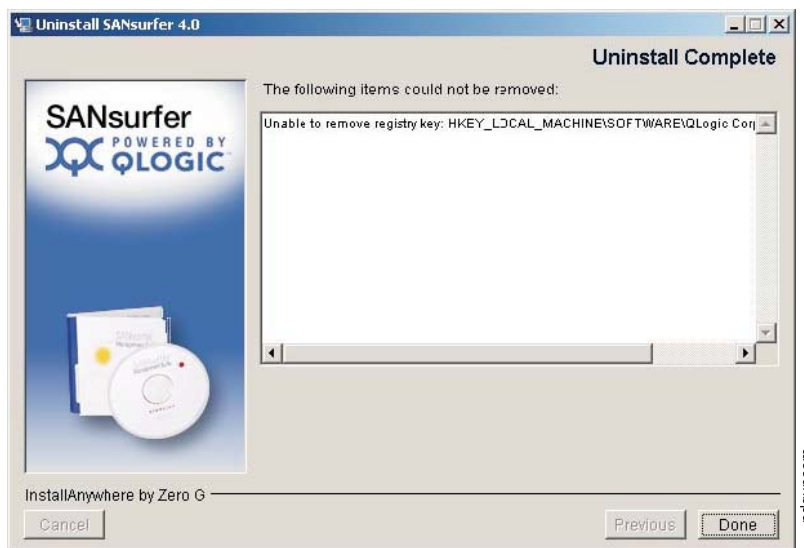

Figure 19. Uninstall Complete window
5. The Uninstall Complete window opens when the uninstall utility has completed the uninstall as shown in Figure 19. Click **Done**.